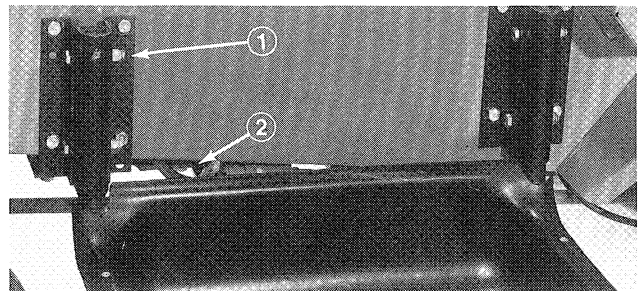

Figure 4
1. Mount lower support tube assembly to brackets with (4) $3/8$ -16x2- $1/4$ " lg. capscREWS and locknuts (Fig. 4).